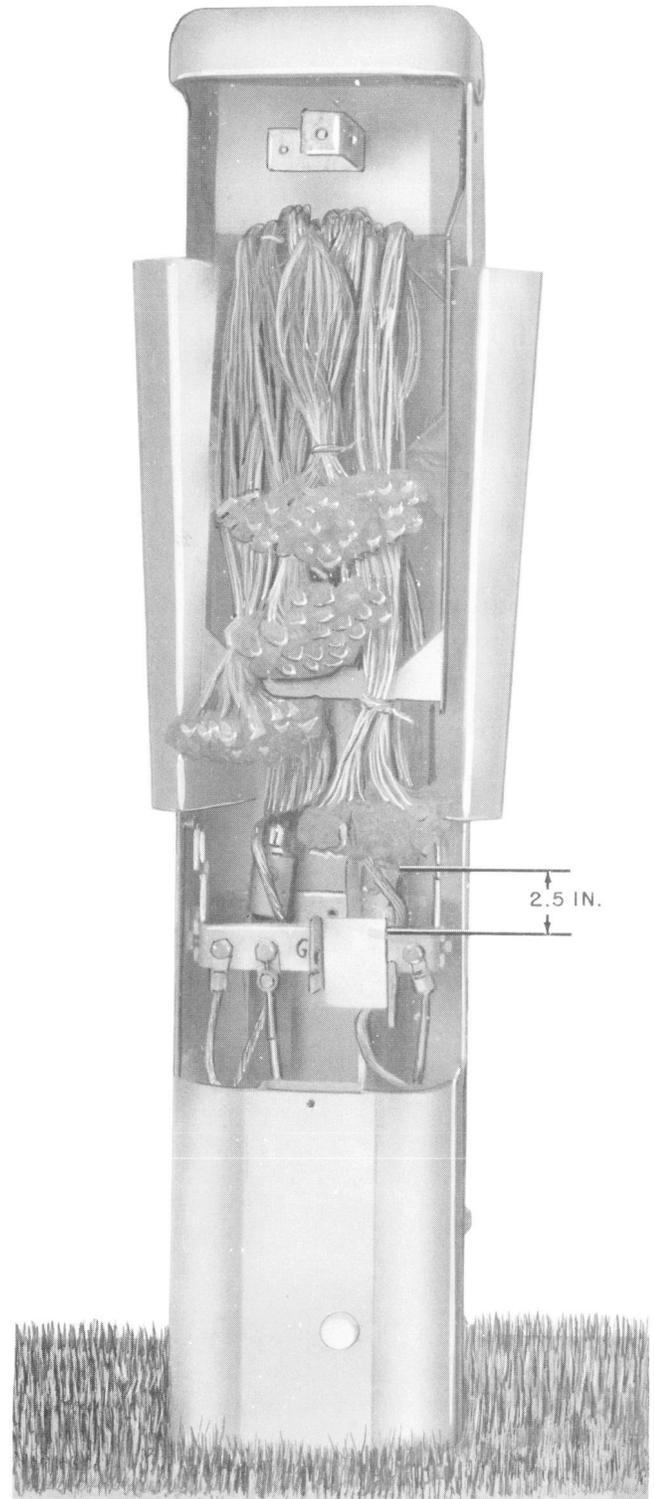

Fig. 21—Completed Splice in PC6/48 Cable Closure Using 700-Type Connectors—Typical for PC12/55
6.10 Select the first 25-pair unit to be spliced from each cable, then select the corresponding pair from each binder group, cut the pair approximately 2.5 inches above the bonding bracket. Using 700-type connector, or other approved connectors, splice the pairs. For large pair size cables, stagger the 25-pair group to build the splice in layers. Figures 21 and 22 illustrate a completed splice.